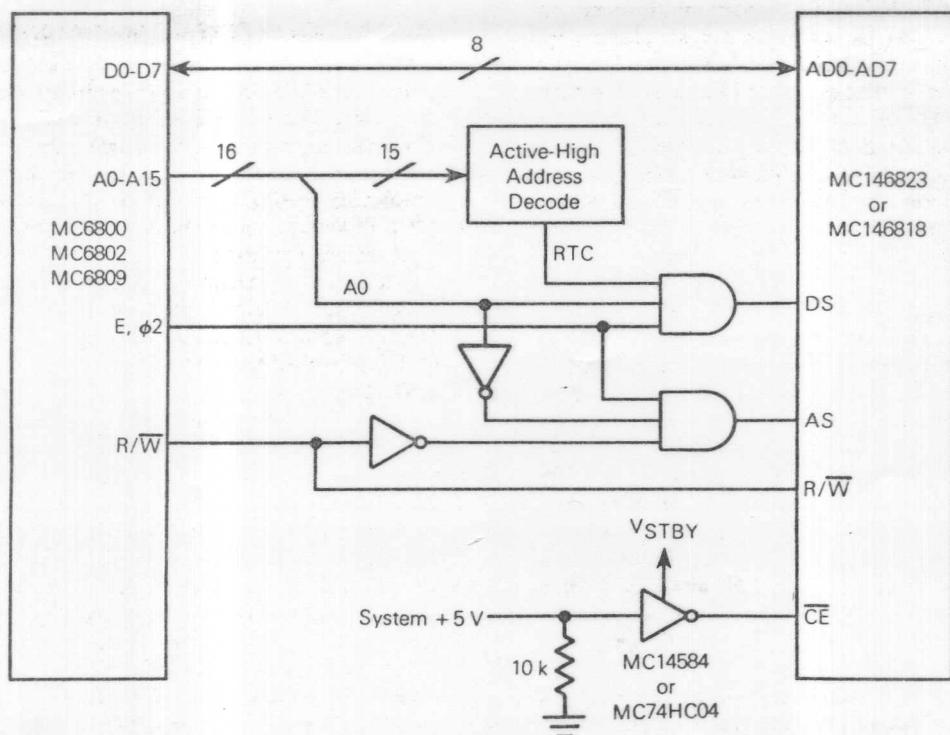

FIGURE 1 — MC146818/MC146823 and Motorola MPU Non-Multiplexed Bus Interface Schematic Diagram
Another method, for allowing a non-multiplexed bus MPU to read or write multiplexed bus peripherals, is to consider the multiplexed bus as a two-register device. One register could be the address latch and the other could be the data register. By connecting the non-multiplexed bus to the multiplexed bus, as shown in Figure 1, the address strobe (AS) is generated by any MPU write to an even address (A0 is low). Although AS causes the state of the multiplexed pins to be captured in the address latch, no data is transferred until the data strobe (DS, RD, or WR) is generated. The data strobe is not generated until a specific decoded, odd address occurs; i.e., A0 is high. Thus, a valid access can only be made by first writing to the location (\$00-\$3F) of the byte to be accessed at an even address, and then by either reading from or writing to the decoded odd address. The software subroutine required to generate the address strobe (AS) and data strobe (DS) signals for the interface shown in Figure 1 is listed in Figure 2. The location to be accessed is contained in accumulator A and data is transferred via accumulator B. The following example clears register A (location \$0A) and then reads the data at location \$25.
The schematic diagram shown in Figure 1 provides an interface between Motorola devices: MC6800/MC6802/MC6809 MPU interfaced with an MC146818 Real Time Clock or MC146823 CMOS Parallel Interface. Since both the MC146818 and the MC146823 are implemented with the Motorola MOTEI circuit (for MOTorola and IntEL bus compatibility), they can be interfaced with either of the two most common multiplexed bus structures. The hardware required for interfacing a competitor's non-multiplexed MPU
Both the MC146818 and MC146823 are CMOS devices and may be used with a battery back-up; however, power-down is different for each device. Also, on both devices  $\overline{CE}$  is used to isolate the device from the bus except as follows: (1) when AS is high on the MC146823 and (2) on the MC146818  $\overline{CE}$  must be valid before the falling edge of AS and it must remain valid until the trailing edge of DS. For these reasons, the CMOS inverter shown in Figures 1 and 3, is used to provide  $\overline{CE}$  from the +5 V system power source. With the inverter connected,  $\overline{CE}$  always remains enabled as long as system power is present. With  $\overline{CE}$  enabled, accesses are controlled by gating the address decoding into AS and DS signals. When system power is removed, the CMOS inverter disables  $\overline{CE}$  and prevents any further MPU accesses.